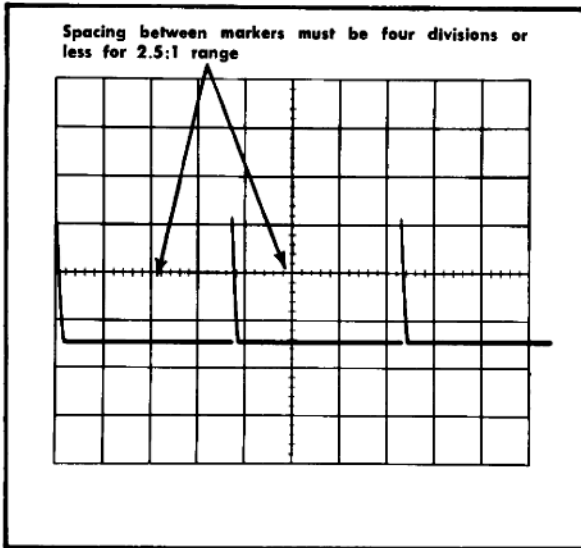

Fig. 5-3. Typical CRT display when checking VARIABLE control range
- d. CHECK—CRT display for four-division maximum spacing between markers (2.5:1 range, see Fig. 5-3). UNCAL readout must come on and s/DIV readout must be off when VARIABLE control is out of the CAL position.